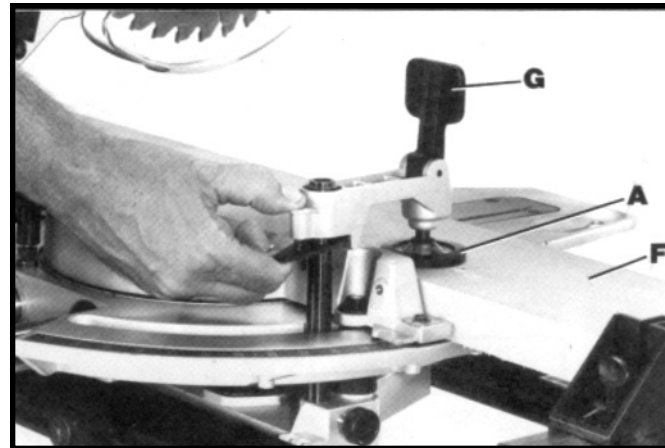

Fig. 39
2. During operation, lower clamp (A) Fig. 39, until the bottom of the clamp (A) lightly contacts top of workpiece (F). **IMPORTANT: When lowering clamp (A) make certain cam lever (G) is in the up position as shown.**